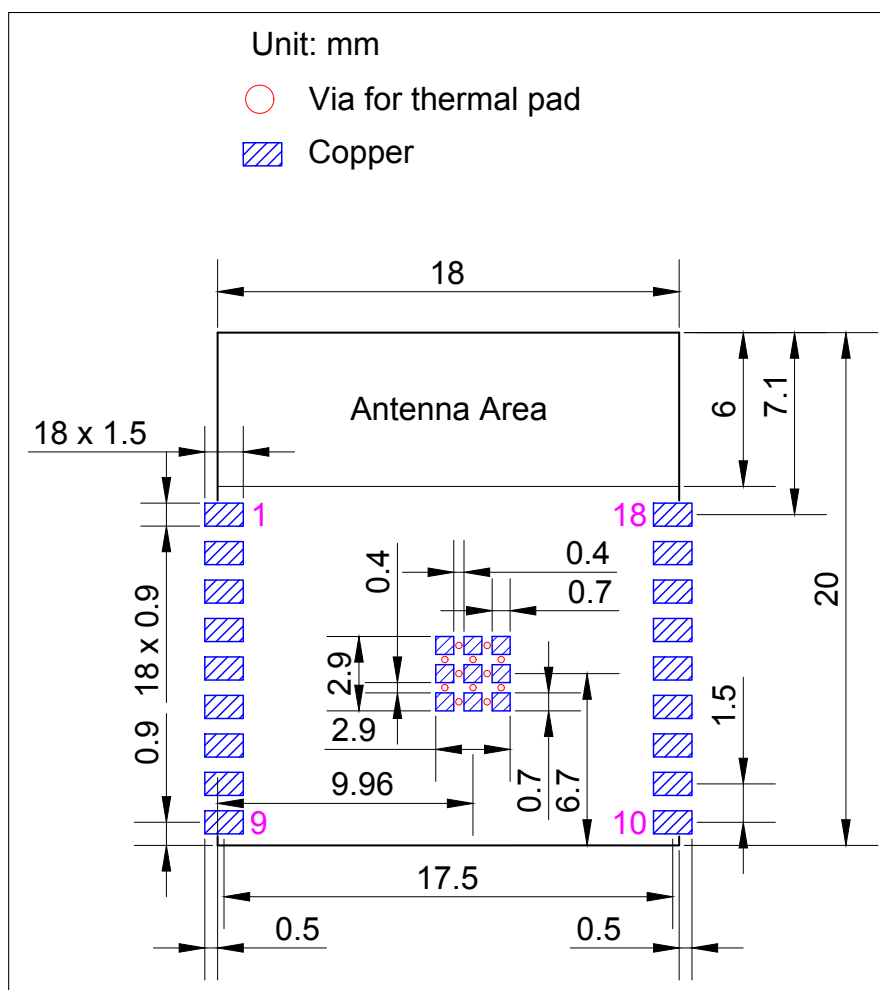

Figure 10: ESP32-C3-WROOM-02 Recommended PCB Land Pattern
- Figures for recommended PCB land patterns with all the dimensions needed for PCB design. See Figure 10 ESP32-C3-WROOM-02 Recommended PCB Land Pattern and Figure 11 ESP32-C3-WROOM-02U Recommended PCB Land Pattern.
- Source files of recommended PCB land patterns to measure dimensions not covered in Figure 10 and Figure 11. You can view the source files for ESP32-C3-WROOM-02 and ESP32-C3-WROOM-02U with Autodesk Viewer.